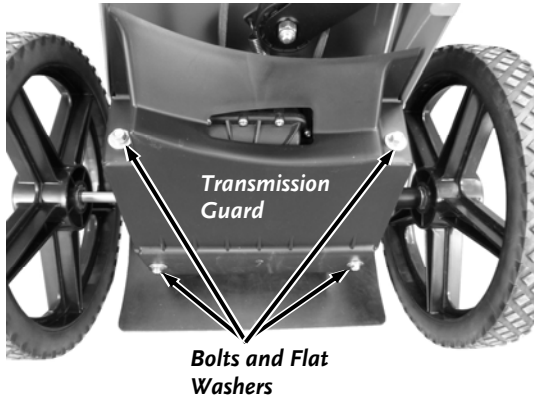

Figure 34
4. Remove the four Transmission Cover Bolts and Flat Washers with a 3/8" Wrench. Remove the Transmission Cover (Figure 34).
15. Install the Transmission Cover and secure with the four Bolts and Flat Washers using a 3/8" Wrench (**Figure 34**).